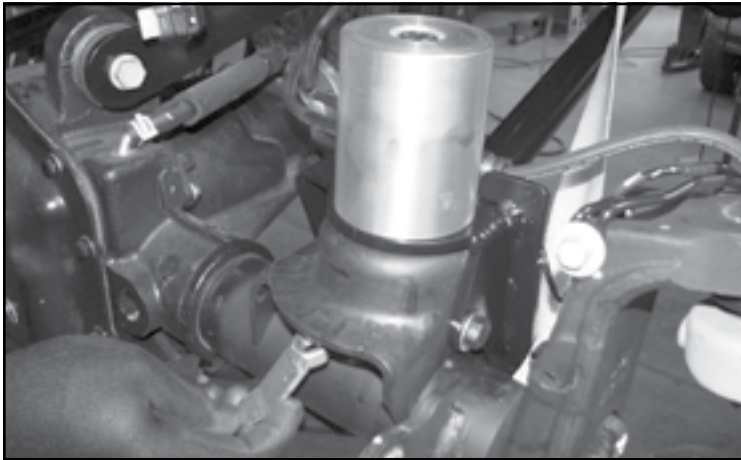

FIGURE 38 - STEP 23
23. Install the bumpstop spacer using the supplied FT50060 (Nuttab) and 1/2" bolt, all from the component box kit. **SEE FIGURE 38**